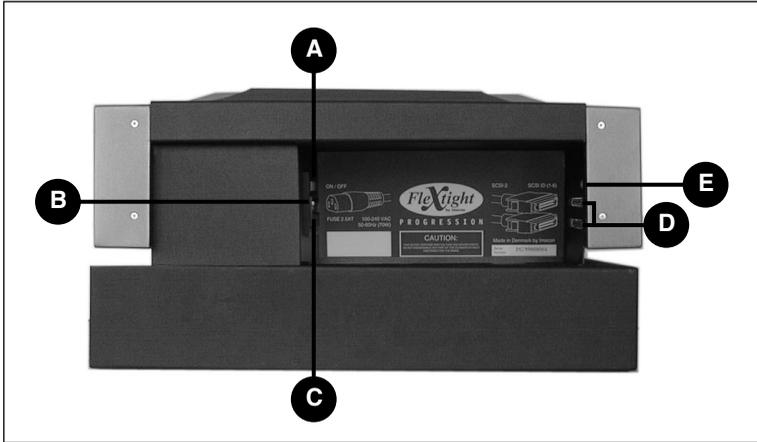

Figure 3: Rear panel connectors
10. Press the rear power switch to apply power to the scanner (it is located at the back of the scanner as shown in Figure 3). This places the scanner in standby mode.